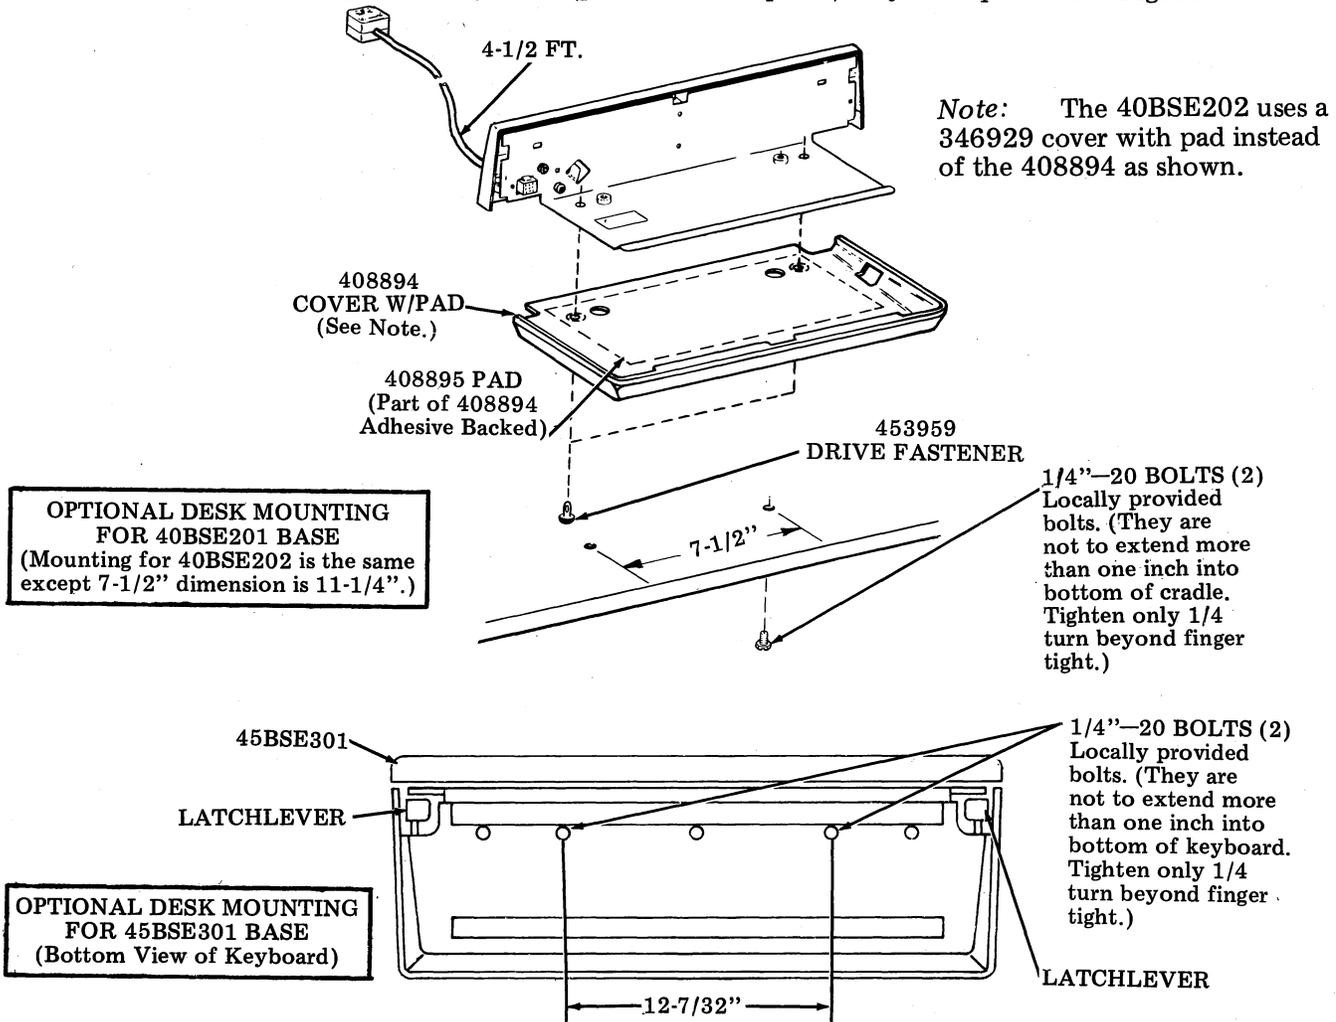

Fig. 96
- ⑩ Connect base cable (part of keyboard base) to the keyboard branch of the 452015 cable (part of 45D101/XX). Route both cables to avoid unnatural twisting or capturing of the cables so that smooth travel of the cables will occur when the keyboard is slid on the table.
3.64 Permanent mounting of the keyboard (per customer option) may be required. See Fig. 96.